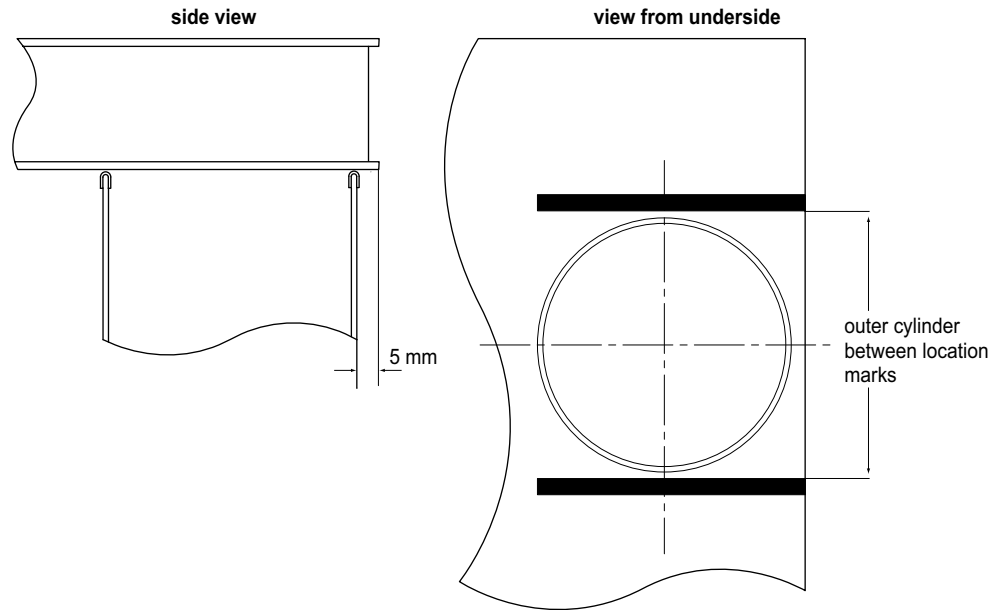

Fig. 3.4 Location marks
- 3) Ensure that the isolators are positioned correctly as identified by the location marks on the underside of the table – Fig. 3.4.